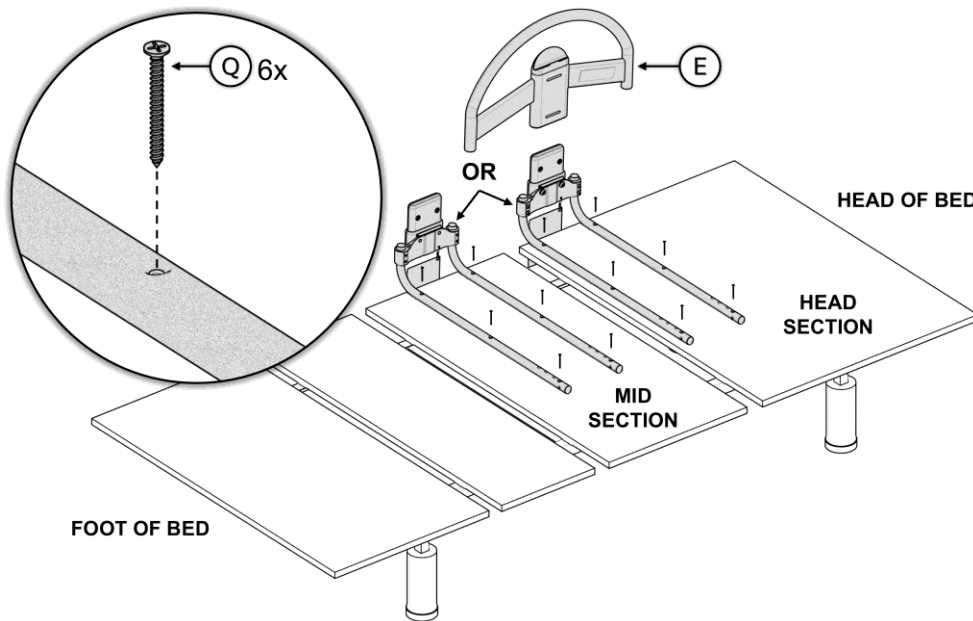

FIGURE 7A
7. Attach assembly to Head Section or Mid Section of Bed Frame, as shown in *FIGURE 7A*, using Screws **Q**. Ensure the Bed Rail is tight against the Mattress without gaps.